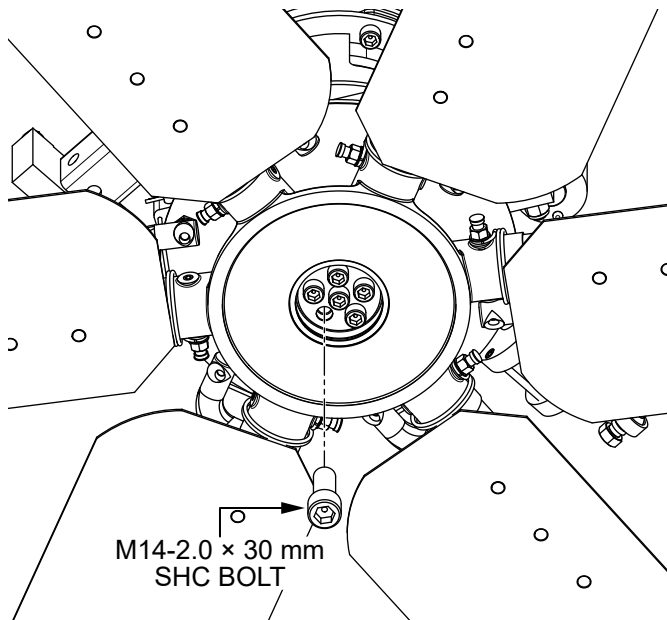

Figure 56. Install Five New Bolts
9. Install the five new **M14-2.0 × 30 mm SHC bolts** as shown in Figure 56. Torque the bolts in a star pattern to 60 lbf·ft (81.3 N·m).